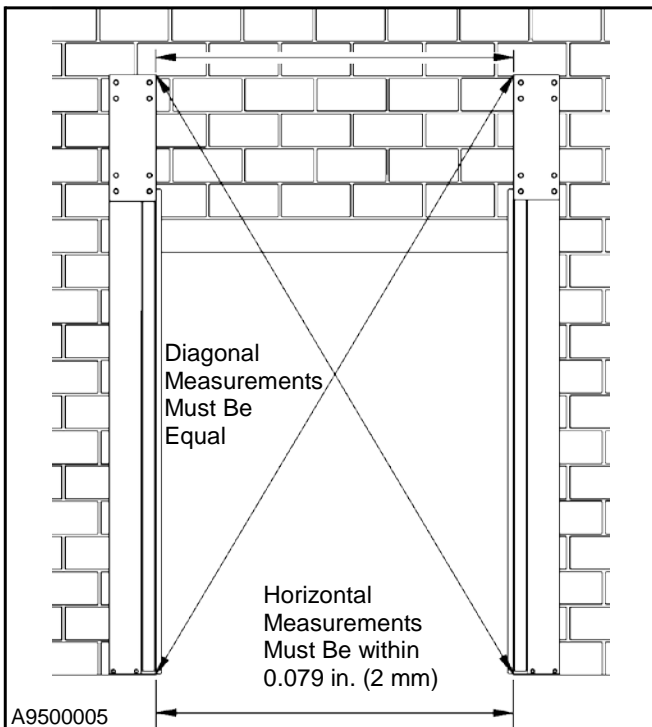

Figure 17
- With both columns set and snugly bolted in place, check the overall squareness of each column. (See Figure 17.)